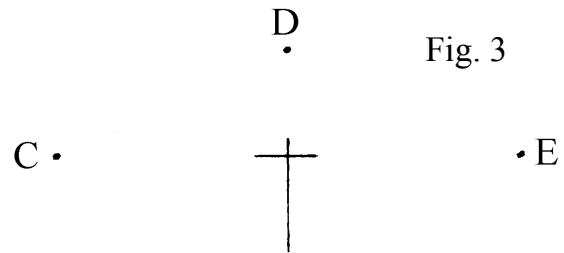

Fig. 3
- (b) A SEGMENTAL arch shape on points C-D-E at Figure 3.